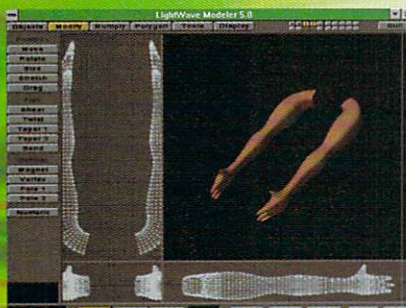

Figure 4: Both arms after final Freeze (Ctrl-d) shape from MetaNURBS.
9. Select Mirror (Tools menu) and mirror it on the right side. Select the entire arm you just mirrored, Cut (x) and Paste (v) into another layer and Center it. Save this object as armL. The final arm shape in my image looks like Figure 4.